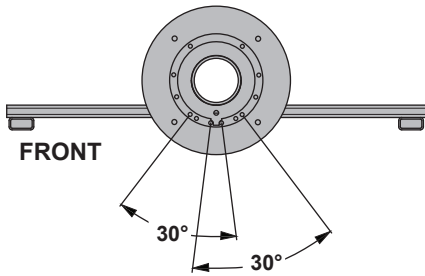

fig. 4.1
- 4** Refer to fig. 4.1, 4.2, 4.3, and 4.4, to select the desired swivel degree. Using a 3/32" allen wrench, fasten two set screws (**K**) where indicated below to the outside of desired angle in steel base (**C**).